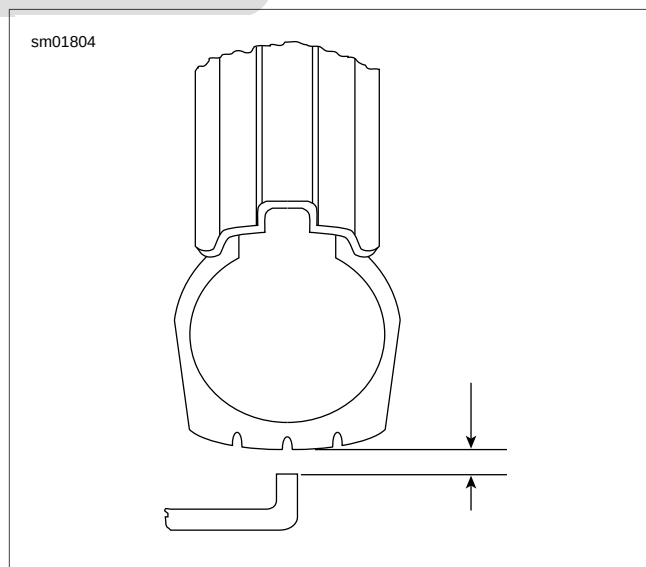

Figure 2-157. Checking Tire Radial Runout
1. See Figure 2-157. Turn wheel on axle and measure tread radial runout.